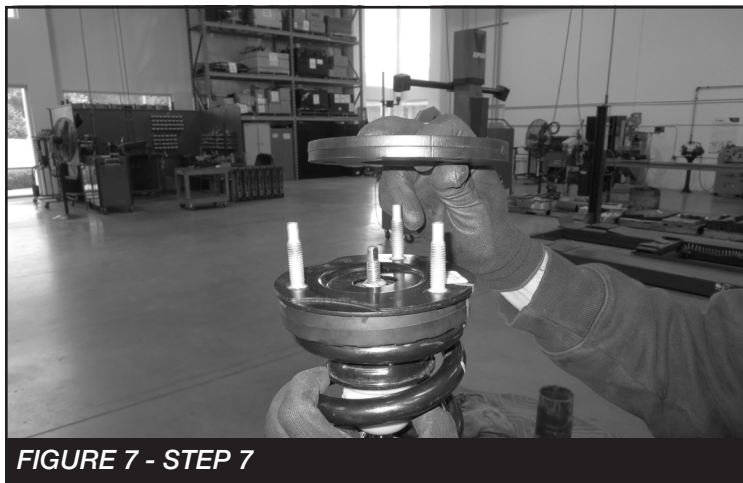

FIGURE 7 - STEP 7
7. Locate FT21008 (coilover spacer) and 10mm c-lock nuts. Install the spacer on to the factory coilover. **SEE FIGURE 7**